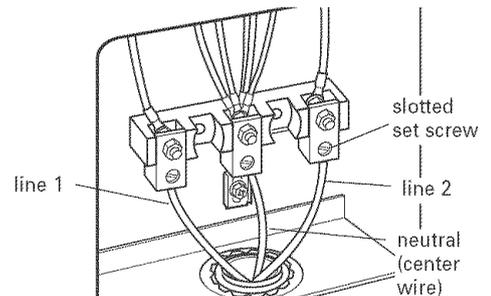

Figure 3
8. Connect the neutral wire (center wire) to the center terminal screw on the terminal block. See Figure 3.
9. Connect the other two wires (lines 1 and 2) to outer terminal screws on the terminal block. See Figure 3.
10. Loosen (do not remove) the 3 slotted set screws. Insert the neutral (white) wire into the hole at the bottom of the center position terminal lug (attached to center terminal screw of terminal block). See Figure 3.
12. Securely tighten the set screws. For 8 gauge copper wire, tighten to 25 in/lbs of torque, and for 6 gauge aluminum wire, tighten to 35 in/lbs of torque to make a proper electrical connection. See Figure 3.